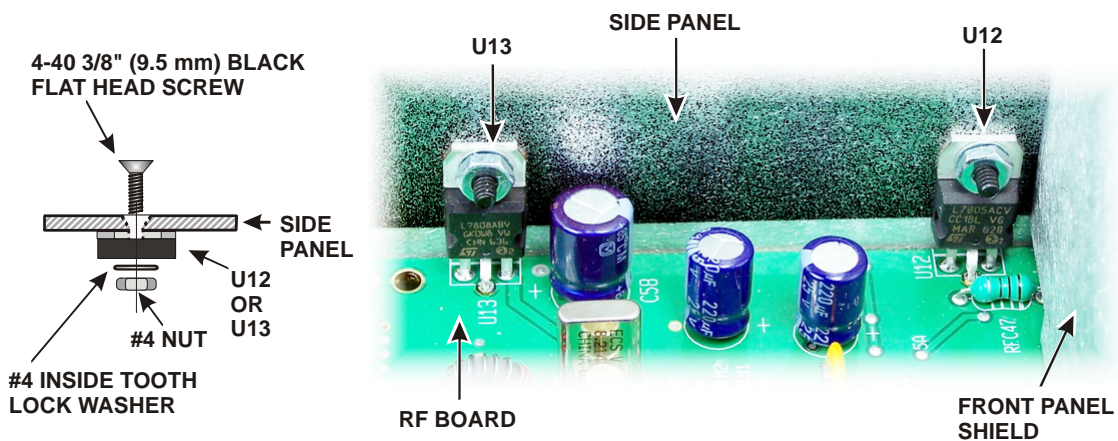

Figure 2. U13 and U12 Mounting Hardware.
- Remove the hardware securing the heat sinks of U13 and U12 to the right side panel (see Figure 2). Be careful not to lose the lock washers inside the K3.
- Replace the two 4-40 3/8" (9.6 mm) black flat head screws, lock washers and nuts to secure the heat sinks of U13 and U12 to the side panel as shown in Figure 2.